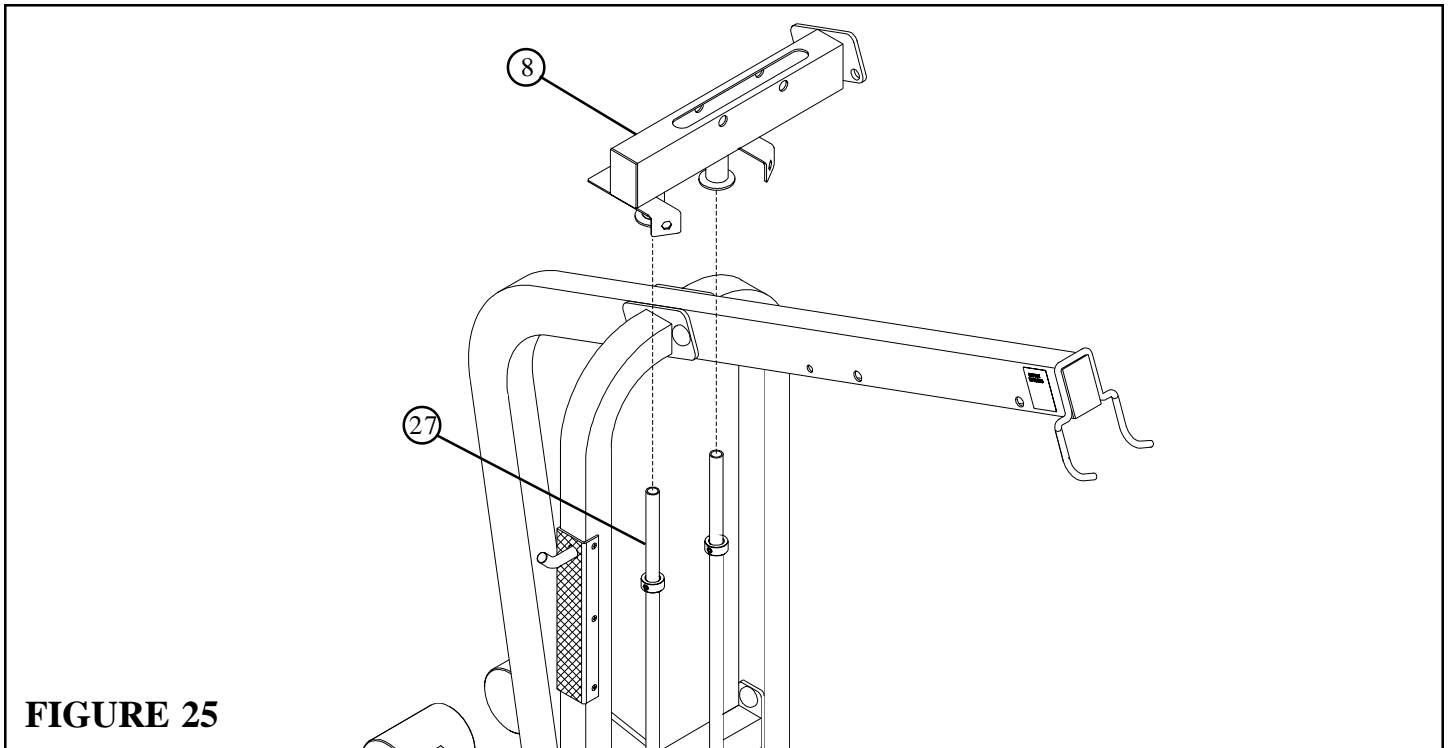

FIGURE 25
- **CAREFULLY** assemble the STACK BOOM (8) over the GUIDE RODS (27) as shown in FIGURE 25.